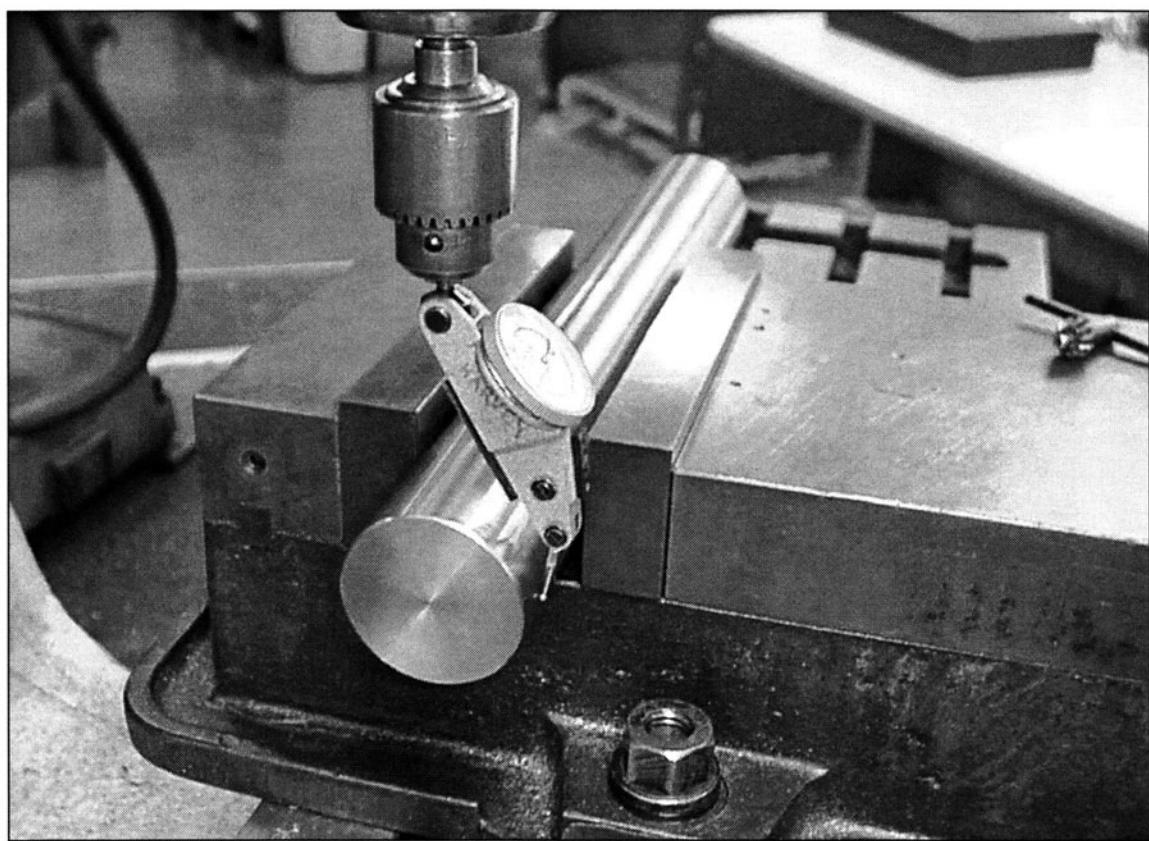

FIGURE 3-30 An indicator is used to precisely find the center of a shaft.
44. *Use an indicator instead of an edge finder to find the exact center of a shaft. (See Fig. 3-30)*